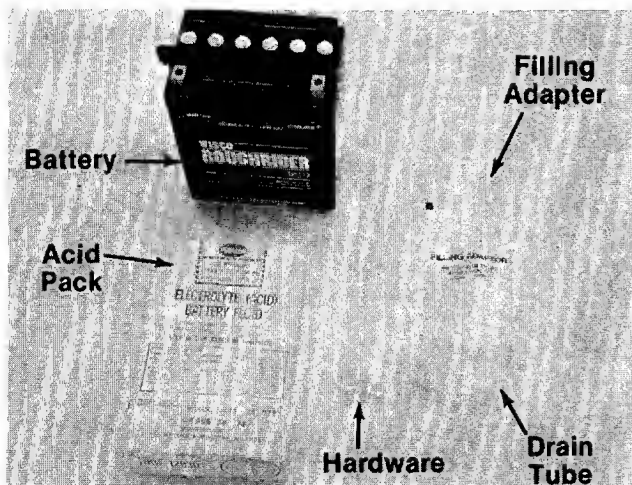

FIGURE 2.
1. Upon opening the battery pack, you should receive acid pack, battery, drain tube, filling adapter and hardware. See figure 2.